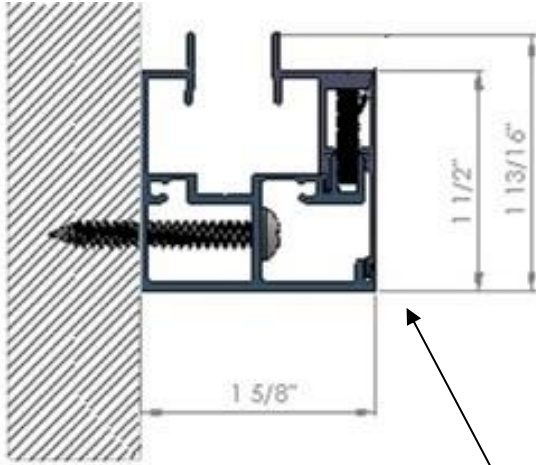

Figure 1: WALL MOUNTED TRACK
**Width:** Determine the desired width. The width of the screen is the measurement outside of track to outside of track, which is the same measurement as outside of cassette to outside of cassette end caps, as both are flush with each other. The track is 1 13/16" wide on each side (See Figure 1). The cassette mounts without using any brackets right on the wall or ceiling. If you mount the tracks on wood trim that protrudes out from the wall, the back of the cassette will have to be built out as well so that it becomes flush with the back of the tracks. The tracks also install right on the wall or post surface with screws (See sketch on next page).